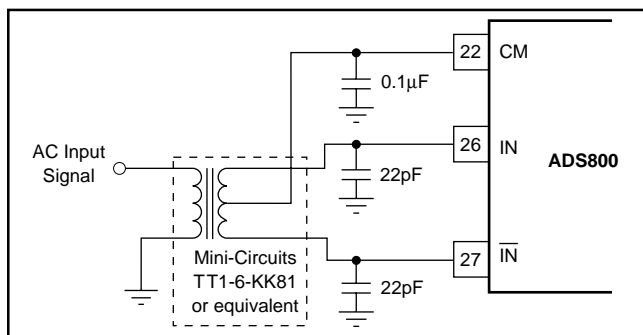

FIGURE 5. AC-Coupled Single-Ended to Differential Drive Circuit Using a Transformer.
The ADS800 has a differential input with a common-mode of +2.25V. For AC-coupled applications, the simplest way to create this differential input is to drive the primary winding of a transformer with a single-ended input. A differential output is created on the secondary if the center tap is tied to the common-mode voltage of +2.25V, as per Figure 5. This transformer-coupled input arrangement provides good high-frequency AC performance. It is important to select a transformer that gives low distortion and does not exhibit core saturation at full-scale voltage levels. Since the transformer does not appreciably load the ladder, there is no need to buffer the Common-Mode (CM) output in this instance. In general, it is advisable to keep the current draw from the CM output pin below 0.5 $\mu$ A to avoid nonlinearity in the internal reference ladder. A FET input operational amplifier such as the OPA130 can provide a buffered reference for driving external circuitry. The analog IN and  $\bar{IN}$  inputs should be bypassed with 22pF capacitors to minimize track-and-hold glitches and to improve high input frequency performance.